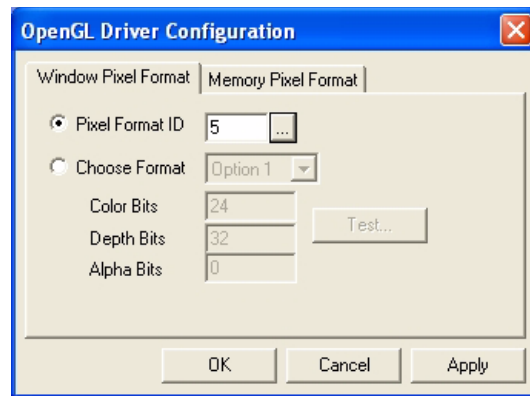

Figure 5-40: OpenGL Driver Configuration dialog box
4. In the OpenGL Driver Configuration dialog box (figure 5-40), select Pixel Format ID and enter this number.